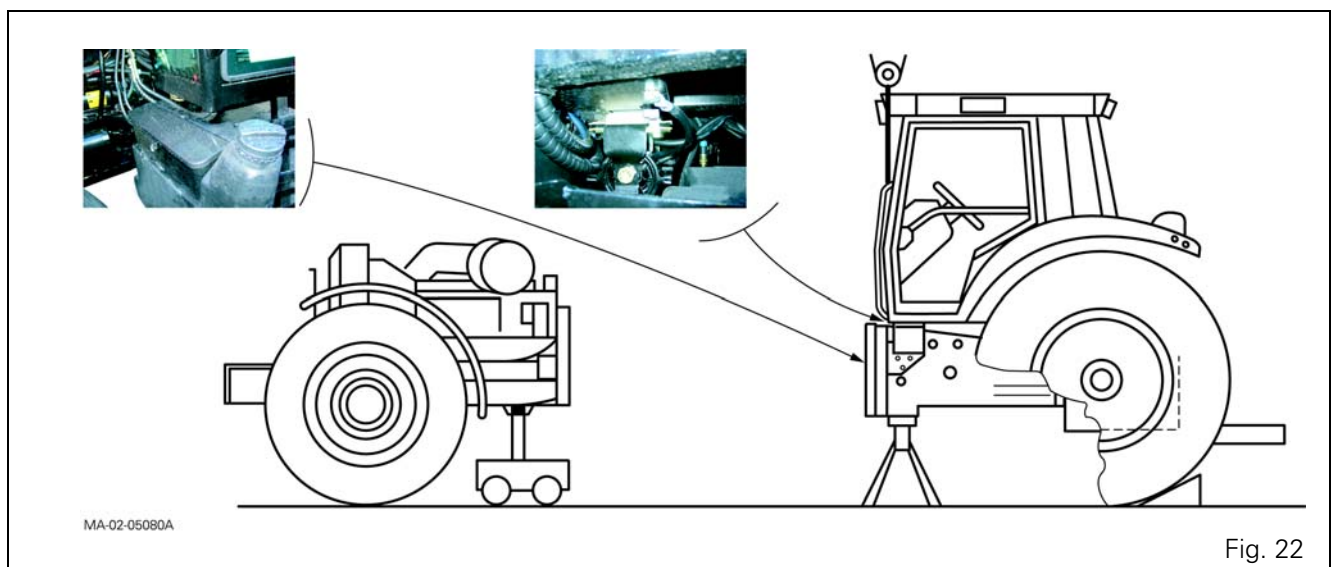

Fig. 22
49. Install (Fig. 22):
52. Assisted by an operator, separate the assemblies (Fig. 22).